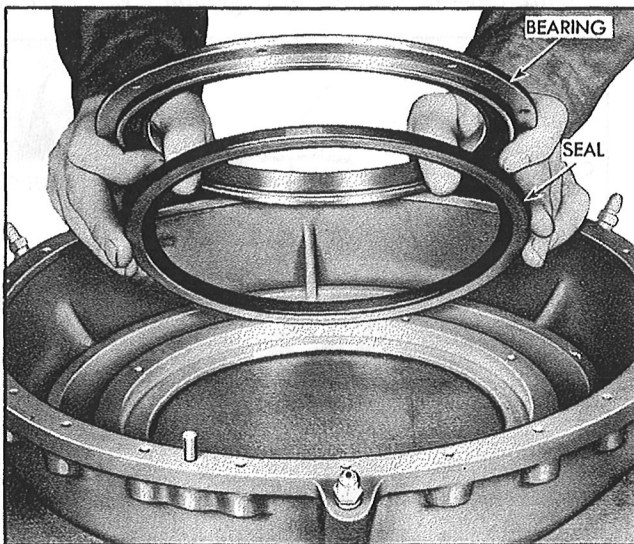

Figure 159—Assembly of the Regulator Cover
*Step 22.*—Install the regulator cover seal and spring, as shown in Figure 159, with the metal side of the seal facing the regulator cover.